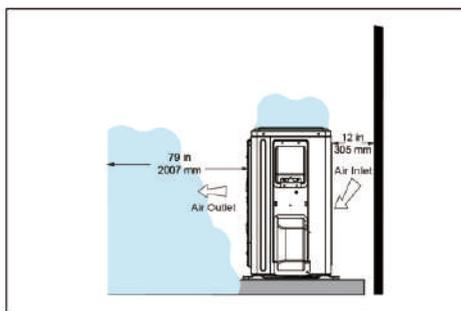

Fig 5.3.2. Outdoor Unit Air Flow Obstructed by Snow
- In heavy snow areas, do not place the unit where drifting will occur as illustrated in "Fig 5.3.2. Outdoor Unit Air Flow Obstructed by Snow".